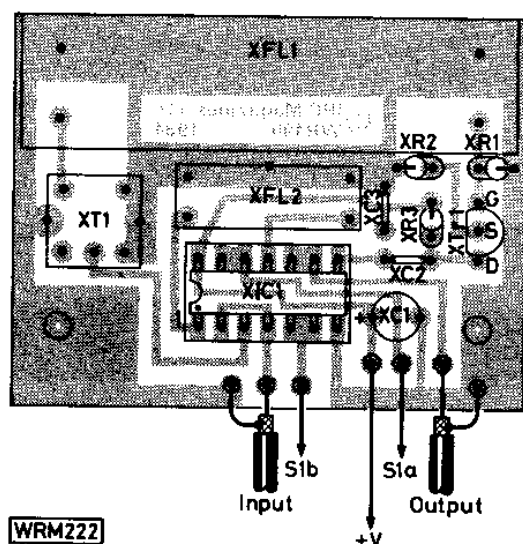

Fig. 2.2: The track pattern and component layout of the new switching board, shown full size
All construction should be done on a single-sided p.c.b. according to the layout shown in Fig. 2.2. First remove FL-1, the LFC6 filter, from the IF-AF board of the FRG 7. This
v) Make necessary connections to the new circuit board, as shown in Fig. 2.2.